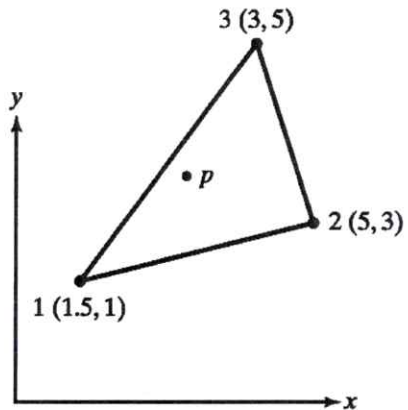

Fig. 3.
- ii) The nodal coordinates of the triangular element are shown in Fig.3. At the interior point P, the x-coordinate is 3.5 and $N_1 = 0.25$. Determine N_2, N_3 , and the y-coordinate at point P.